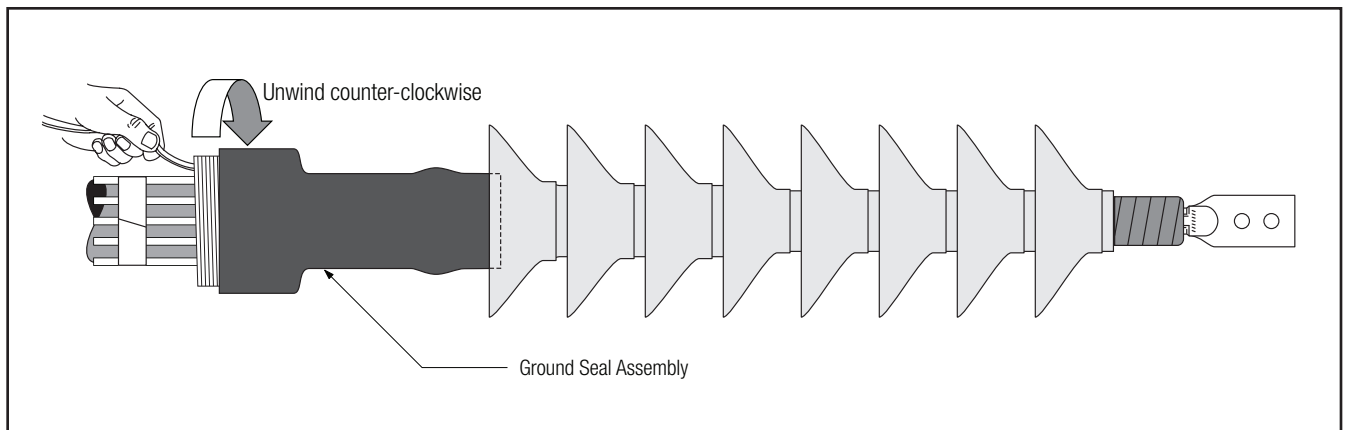

Figure 12
- 5.1 Slide the parked ground seal assembly onto the termination. Start to shrink underneath the first skirt. Remove the core by pulling the loose end while unwinding counter-clockwise. (*Figure 12*)